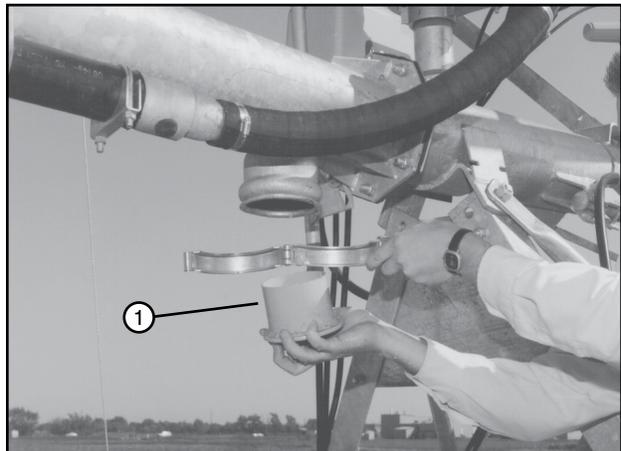

Figure 104-2 1. Sand Trap
4. Remove and clean the sand trap at the last regular drive unit. See Figure 104-2.